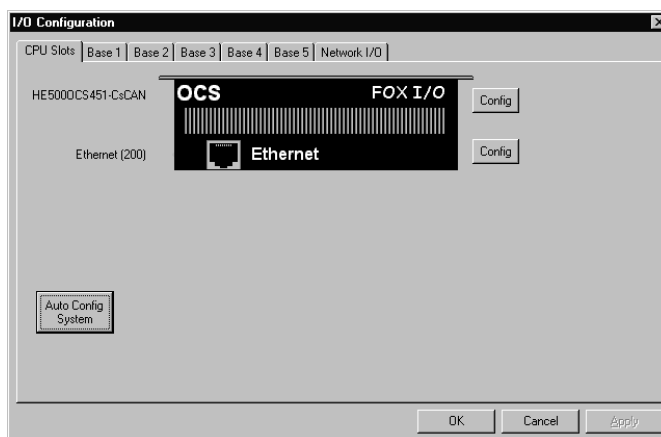
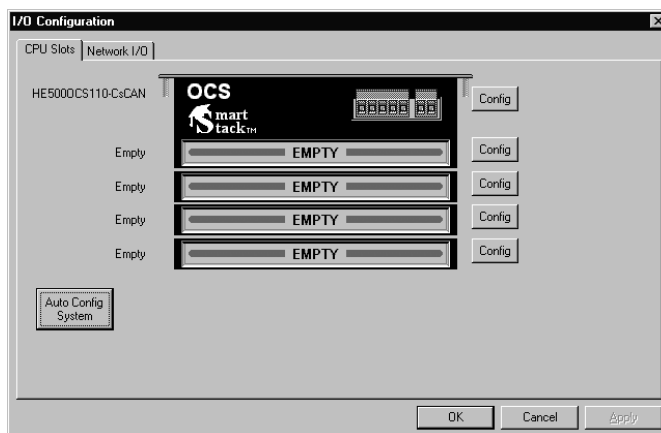
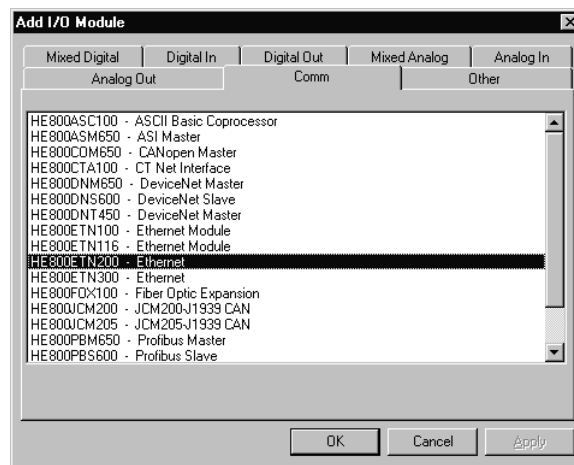

Figure 3.1 – I/O Configuration Dialog – OCS Models With Built-In Ethernet
Figure 3.2 – I/O Configuration Dialog – OCS Models With User-Installable Ethernet
Figure 3.3 – Add I/O Module Dialog – Comm Tab and Ethernet Module Selected
1. On the main Cscape screen, select the **Controller** menu and its **I/O Configure** sub-menu to open the I/O Configuration dialog (Figure 3.1 or Figure 3.2).
Note: Figure 3.1 shows a typical I/O Configuration dialog for OCS Models, which have standard FOX100 and Ethernet Modules built-in. For these models, step 3 should be skipped. Figure 3.2 shows a typical I/O Configuration dialog for other OCS Models, in which the Ethernet Module is a user-installable option. For these models, step 3 must be performed, to configure the Ethernet Module into a SmartStack I/O slot.
- a. Referring to Figure 3.2 above, click on the **Config** button to the right of the desired I/O slot, which will open the Add I/O Module dialog, as shown in Figure 3.3.
- Now it is time to configure the Ethernet Module as appropriate for the application. Referring to Figure 3.1 or 3.4 above, click the **Config** button to the right of the Ethernet Module, and then select the Module Setup tab, revealing the Ethernet Module Configuration dialog (Figure 3.5).